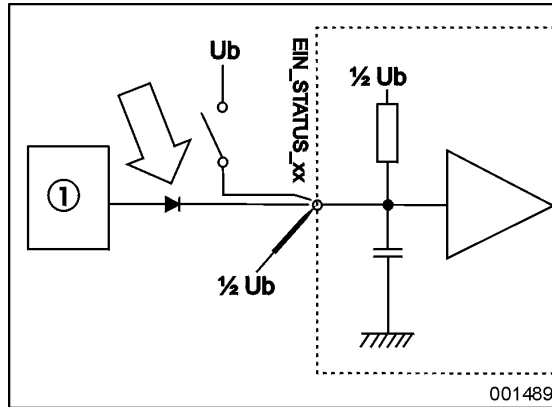

**Figure 12: Variable resistance on analog input**
**1.8.3 ANALOG INPUTS (SEE FIGURE 12)**